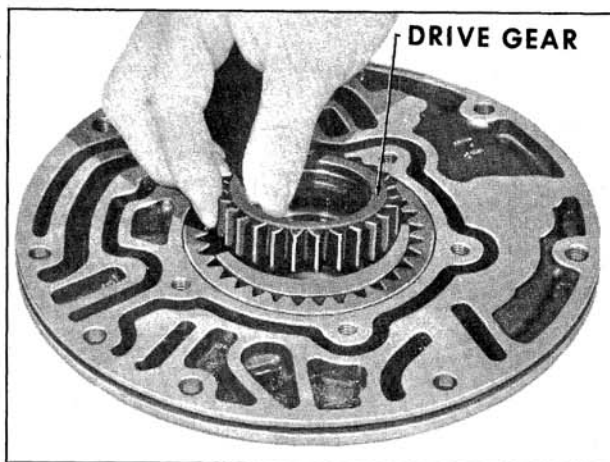

Fig. 6-411 Removing Oil Pump Drive Gear
6. Remove oil pump drive gear. (Fig. 6-411)